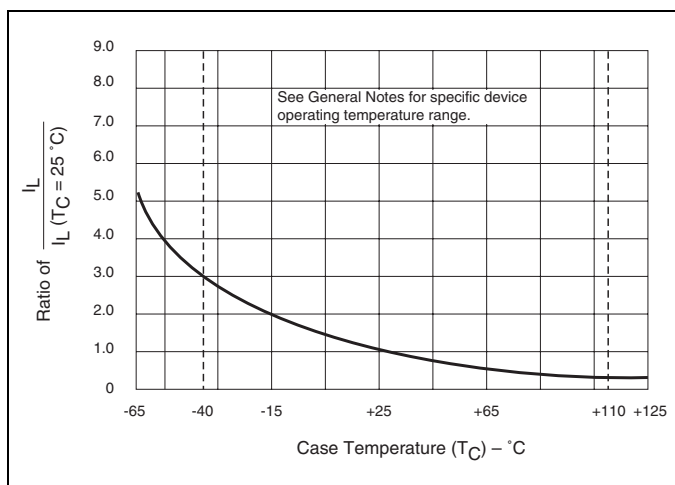

Figure E5.18 Normalized DC Latching Current versus Case Temperature
- Latching current can be higher than 20 mA for higher I_{GT} types. Also, latching current can be much higher at -40 °C. See Figure E5.18.